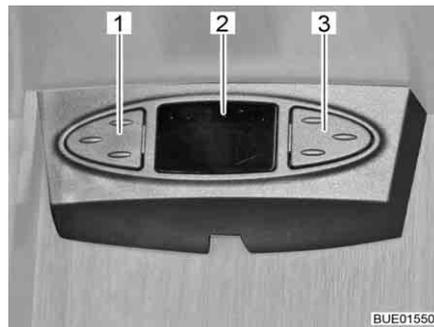

Fig. 60 Satellite mouse
Depending on the model, the satellite receiver is equipped with a satellite mouse. The satellite mouse's display (Fig. 60,2) shows the current channel. The two buttons can be used to operate the basic functions of the satellite unit (changing channel, switching on/off).
- Choosing the previous channel from the list: Press left button (Fig. 60,1).
- Choosing the next channel from the list: Press right button (Fig. 60,3).
- Switching between radio and TV: Press the buttons (Fig. 60,1 and Fig. 60,3) briefly at the same time.
- Switching the receiver on/off: Press and hold the buttons (Fig. 60,1 and Fig. 60,3) at the same time.